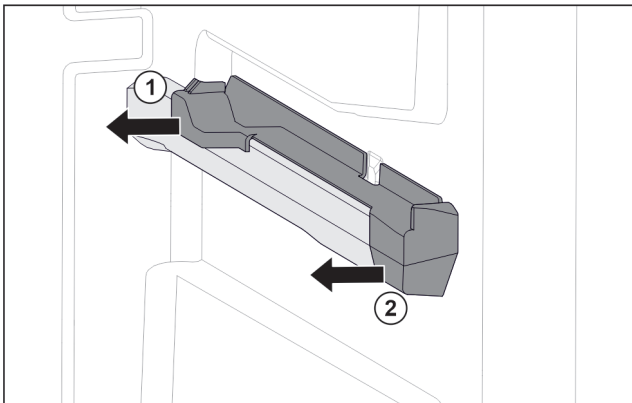

Fig. 76 Attachment on the right moulded rib
- ▶ Pull off attachment at the back sideways. Fig. 76 (1)
- ▶ Pull off attachment at the front sideways. Fig. 76 (2)